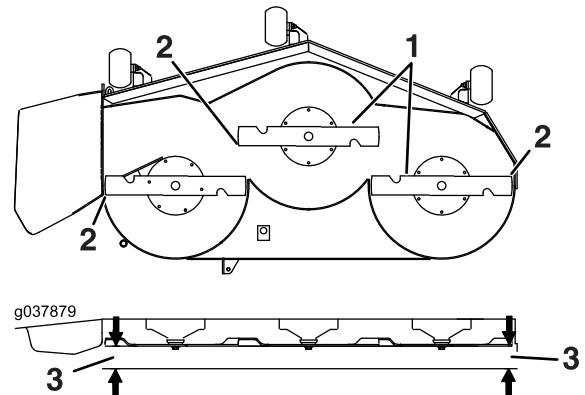

Figure 101
7. Measure between the blade tip and the flat surface (Figure 101). If both measurements are not within 5 mm (3/16 inch), adjust the leveling; continue with this procedure.
14. Carefully rotate the blades side to side (Figure 101).